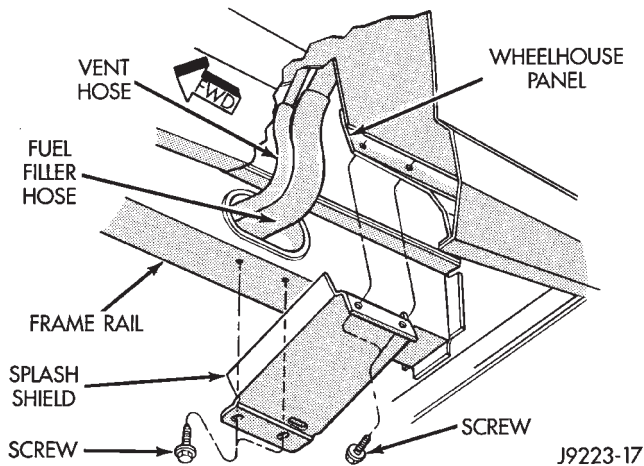

Fig. 7 Fuel Filler Hose Splash Shield—XJ Vehicles
(1) Remove the screws that attach fuel filler hose splash shield to wheelhouse panel and frame rail (Fig. 7).
(2) Remove the hose splash shield from wheelhouse panel and frame rail (Fig. 7).